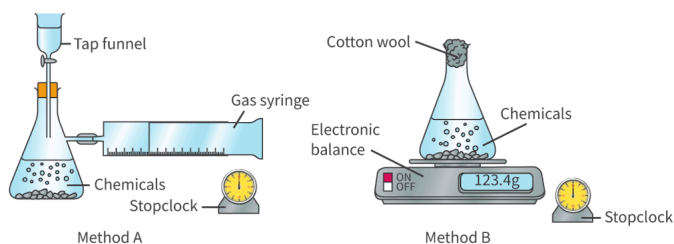

Figure 13. Two methods for measuring rate of reaction between marble chips and dilute hydrochloric acid.
1. For the reaction between marble chips (calcium carbonate) and hydrochloric acid the rate of reaction can be measured in two ways, illustrated in **Figure 13**.
More information for figure 13